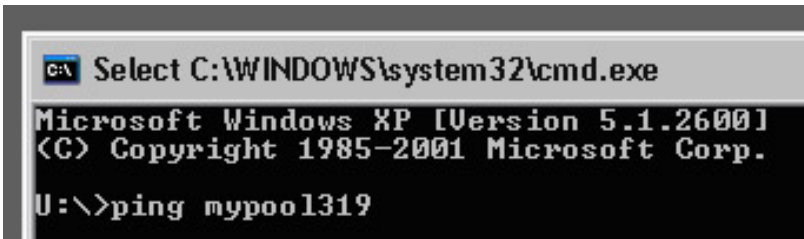

Figure 6
- 3) At the command prompt, type "ping mypoolnnn" where *nnn* is the last 3 digits in the ACHN's MAC address (see "ACHN's URL" on page 3) and press the ENTER key on your keyboard (Figure 6).